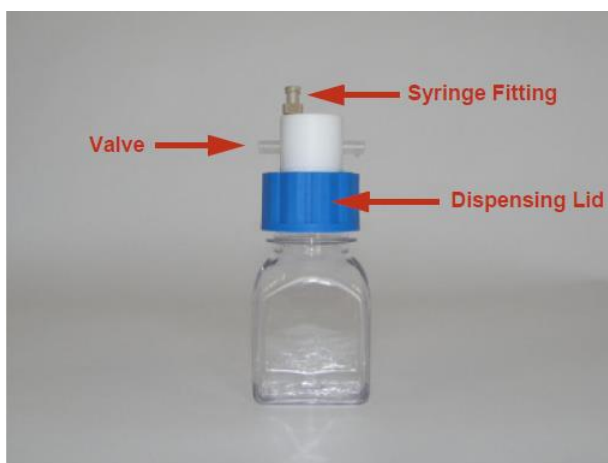

Figure 1.3 – Solvent bottle
3. Attach the syringe to the solvent bottle using the syringe fitting (Luer Lock) located on the top of the bottle cap. Turn the valve so it is parallel with the syringe to allow for solvent to escape from the bottle (Figure 1.3).